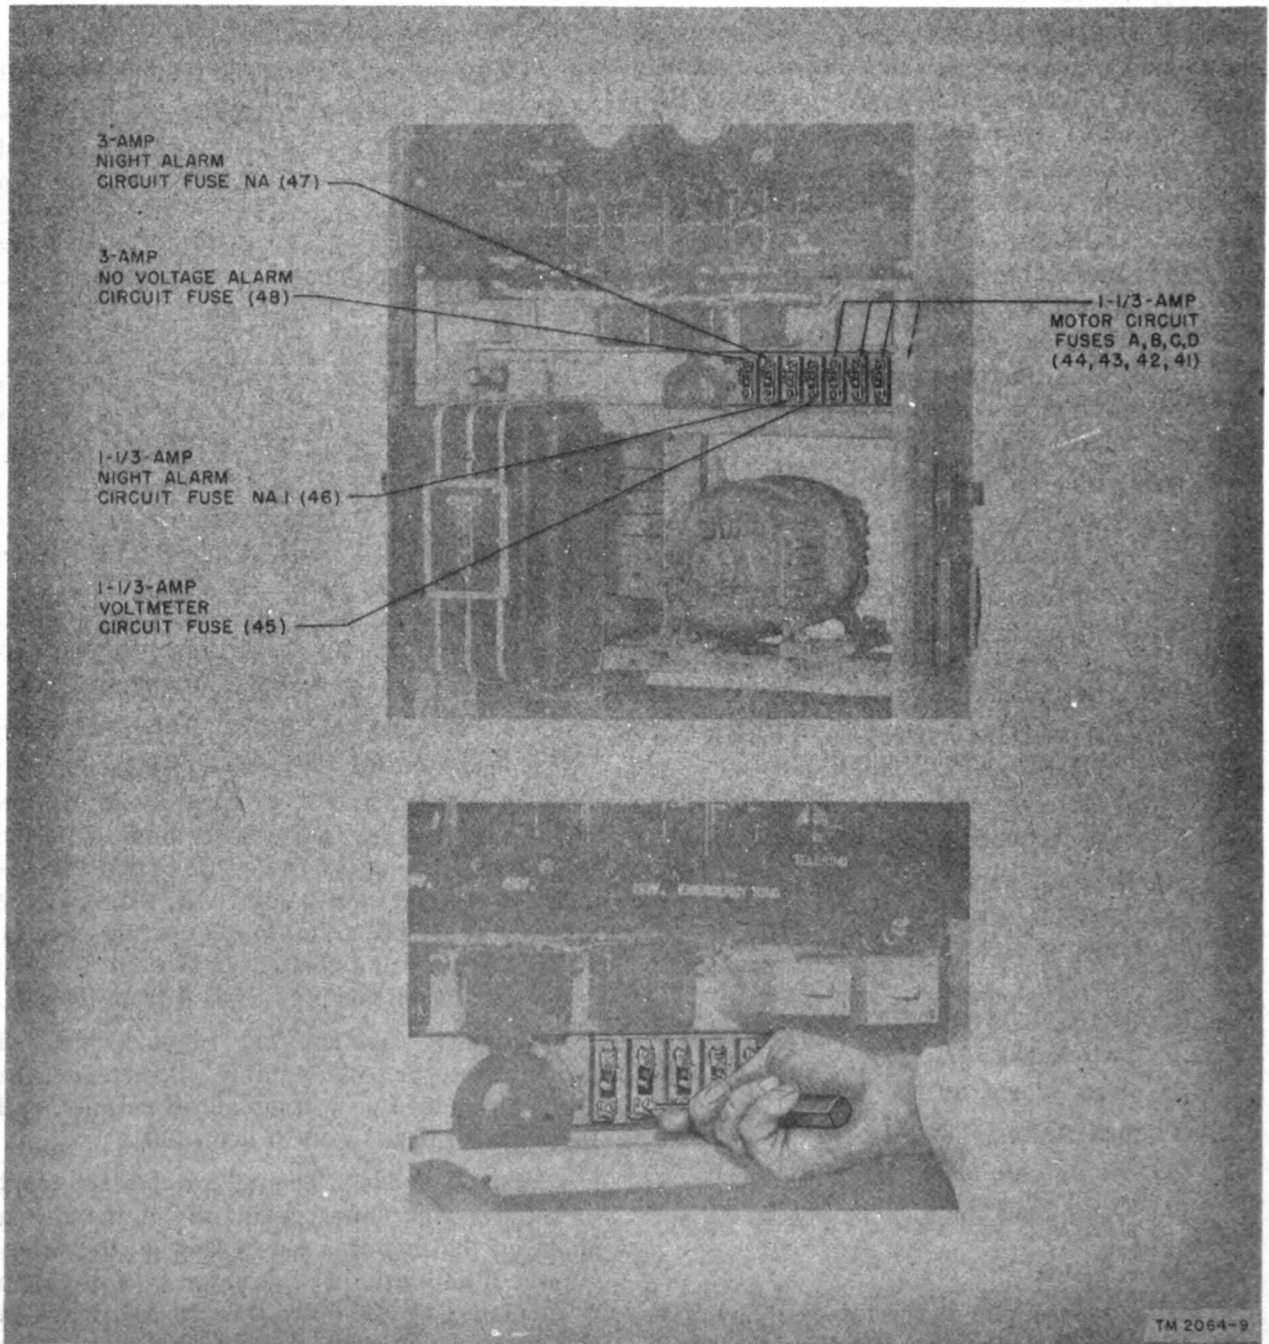

Figure 15. Location of fuses and method of removal from Panel BD-132 for replacement.
grasshopper type fuses (fig. 15), which denote an open fuse, contain low-melting links which open when the current load becomes excessive, allowing the released member of the fuse to fly up through approximately 160 degrees. A colored bead on the top of this fuse gives notice that the fuse is open; at the same time a buzzer sounds, the circuit for operation of this open
- (1) *Grasshopper type fuse.* If initial installation requires insertion of the alarm-type fuses in the fuse block at the front center of Panel BD-132, note the fuse values (fig. 15). The two fuses nearest the center of the panel are WECO type 35G; all other grasshopper type fuses are WECO type 35A. Install them as indicated in figure 15.
- (2) *Cartridge type fuses.* The Telering power ringer is equipped with two car-